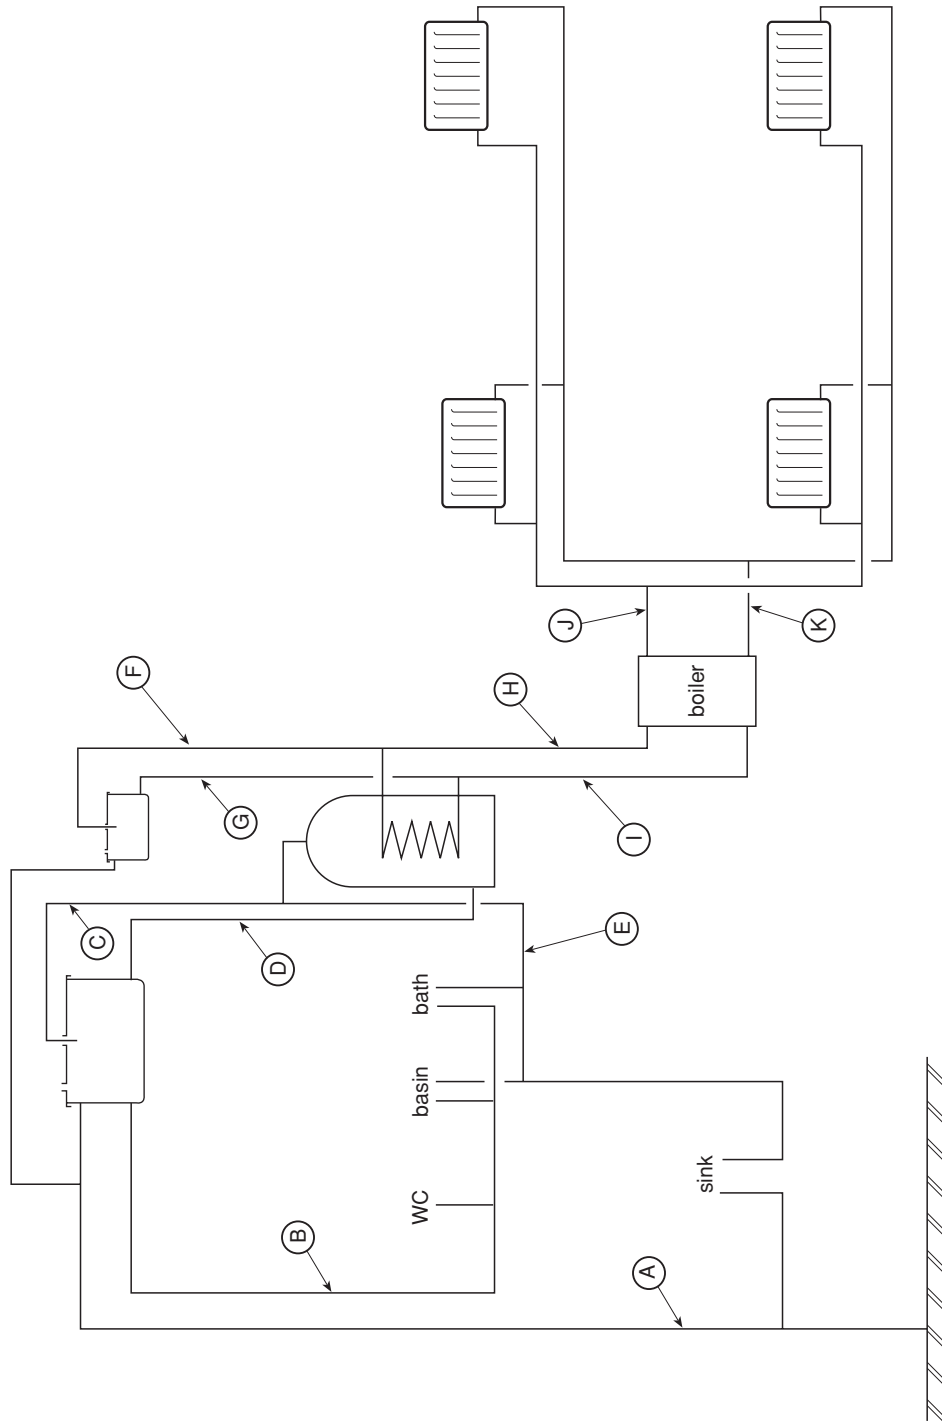

Figure 5
- (13) Identify the name given to the design of systems shown in Figure 5. (Pages 89, 105 and 141.)
- (14) Complete Figure 5 (using correct graphic symbols) by indicating all the necessary valves, etc., which would be included in the design of the various systems. Also complete the following schedule to identify the name given to each pipe indicated and give a suggested pipe size. (Pages 89, 105 and 141.)